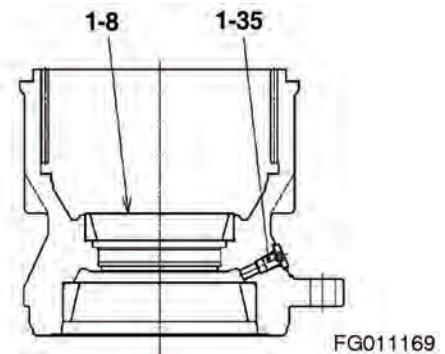

Figure 71
1. Press fit oil seal (1-7, Figure 71).
2. Press fit taper roller bearing (1-8, Figure 74) and install plug (1-35, Figure 71).